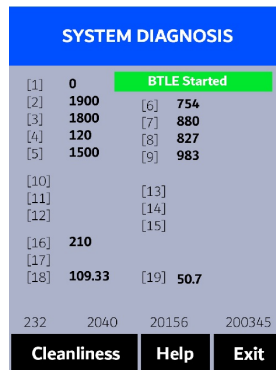

Figure 50.
Press **Diagnosis** () to launch the **SYSTEM DIAGNOSIS** screen where raw measurement data are displayed (Figure 50). The information has no use for normal operation, but instead is used for device troubleshooting. Provide an image of both the **DEVICE INFORMATION** screen and the **SYSTEM DIAGNOSIS** screen when you contact Pyxis (service@pyxis-lab.com) for troubleshooting your device or call +1 (866) 203-8397.
4. Allow 5–10 seconds for the message in the top-right corner of the display change from **Starting BTLE...** to **BTLE Started** (Figure 50).